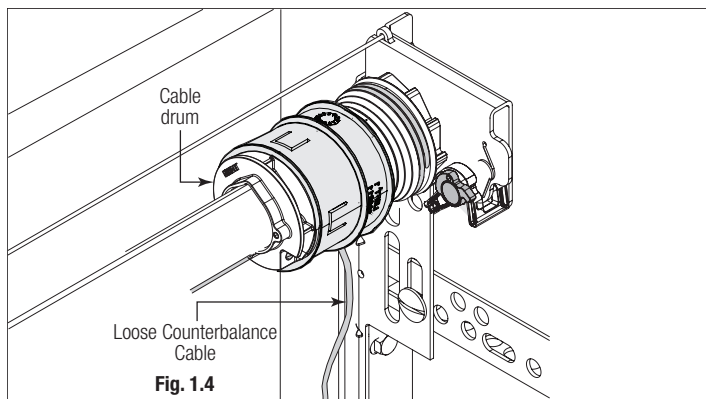

Fig. 1.4
**STEP 3:** Check for spring tension by pulling the counterbalance cable on the right hand cable drum away from the header, as shown in Fig. 1.4.